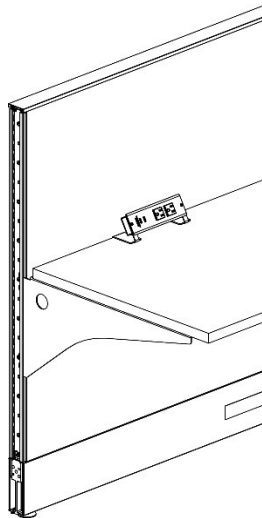

Figure 1
1. Attach the brackets to the power strip using included M3 X 8 Flat Head Machine Screws, (Figure 1).